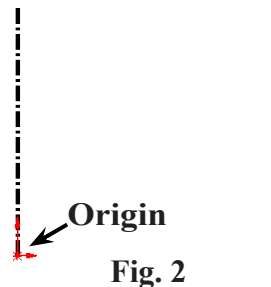

Fig. 2
Step 4. Sketch **vertical centerline from Origin**  and another **horizontal centerline to right**, **Fig. 2**.